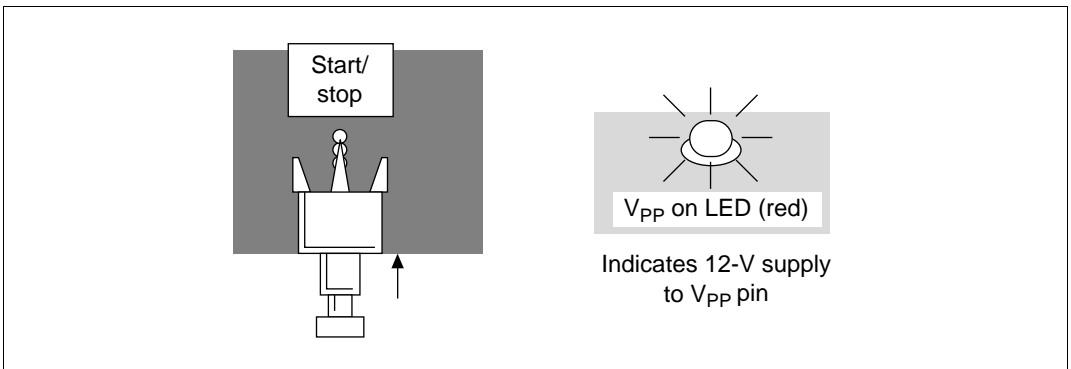

Figure 4.9 Start Programming Operation
- b. Enter No (N) to select user program mode.
5. Press the adapter board's transfer switch to supply 12 V to the V_{pp} pin. The adapter board's V_{pp} on LED (red) lights at this time. The F-ZTAT microcomputer goes into user program mode (figure 4.9).